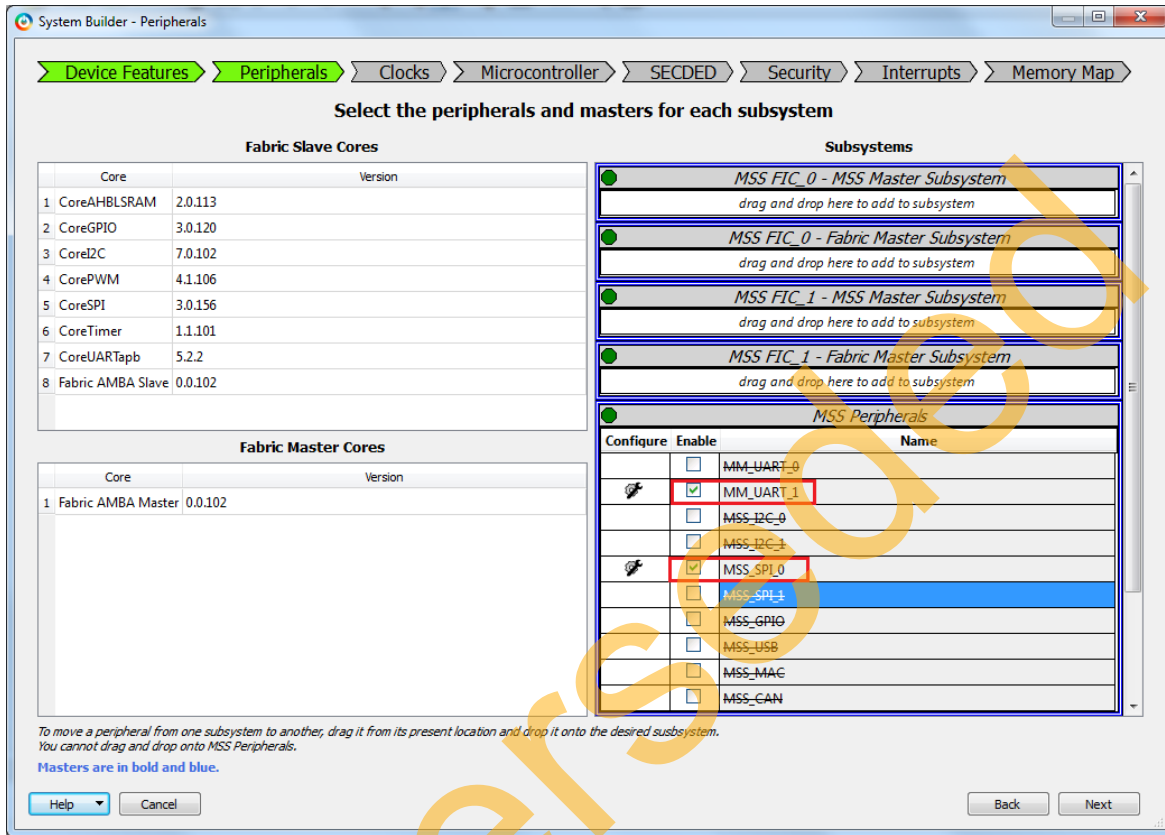

Figure 7 • System Builder Configurator – Peripherals Page
10. Click **Next**. The **System Builder – Peripherals** page is displayed. Under the **MSS Peripherals** section, uncheck all the check boxes except **MM_UART_1** and **MSS_SPI_0**, as shown in Figure 7.